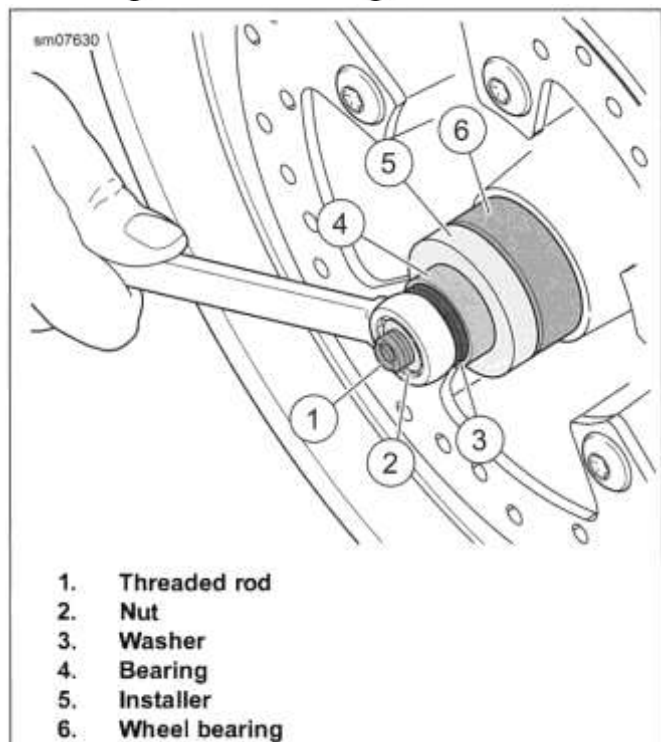

Figure 3-32. Installing Bearings
2. See Figure 3-32. Place **new** bearing on the rod.
- a. **Non-ABS bearing:** Lettered side against installer (5).
- c. Place 1-inch installer (Part No. HD-44060-8) (5), bearing (4), washer (3) and nut (2) over rod.
- a. Hold hex end of threaded rod (1) and turn nut (2).